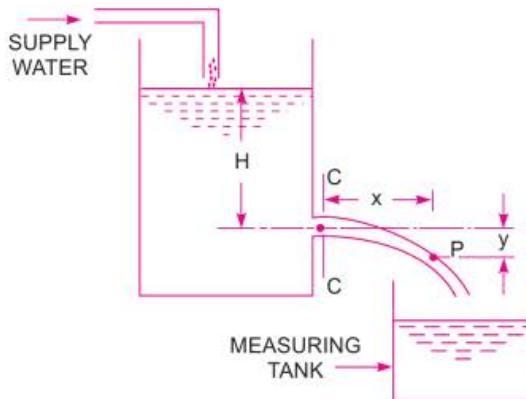

Fig. 7.2 Value of C_d .
7.5.1 Determination of Co-efficient of Discharge (C_d). The water is allowed to flow through an orifice fitted to a tank under a constant head, H as shown in Fig. 7.2. The water is collected in a measuring tank for a known time, t . The height of water in the measuring tank is noted down. Then actual discharge through orifice,
7.5.2 Determination of Co-efficient of Velocity (C_v). Let $C-C$ represents the vena-contracta of a jet of water coming out from an orifice under constant head H as shown in Fig. 7.2. Consider a liquid particle which is at vena-contracta at any time and takes the position at P along the jet in time ' t '.